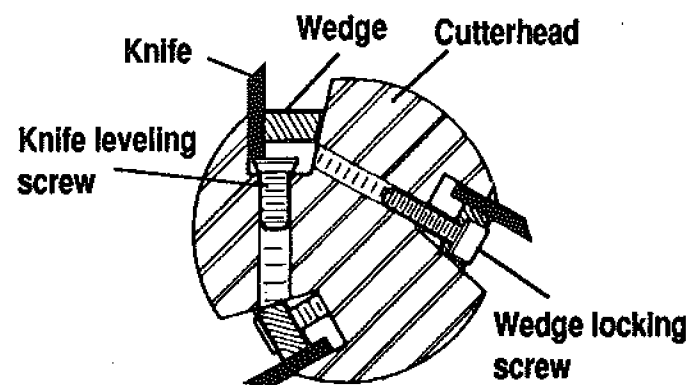

Fig. 67
7. Install one knife loosely - Set the knife in place with the cutting edge pointed toward the outfeed side of the machine. Put the two wedges in place and align them with the screw holes in the cutterhead. Be certain that the square side of the wedges butt up against the knife as shown in Fig. 67.